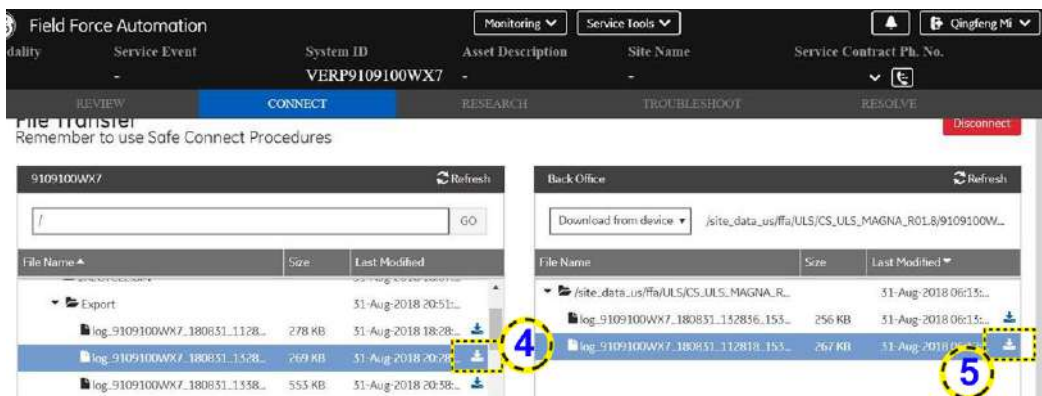

Figure 7-51. File Transfer
5. In back office page, click **button** (5) in Figure 7-51 to download the file to PC.